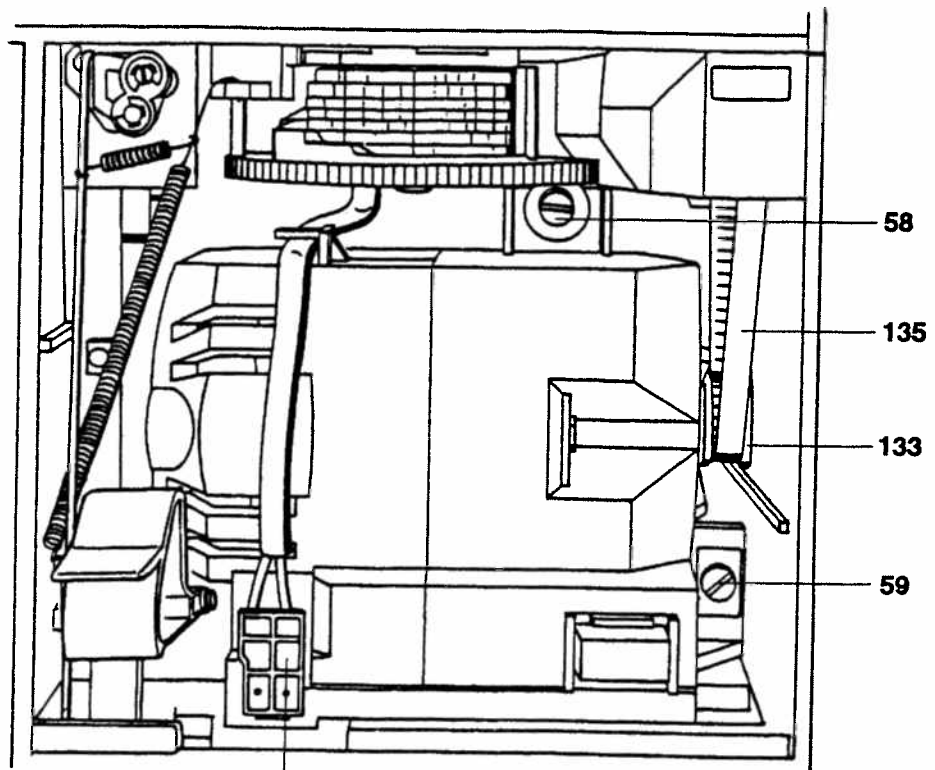

Fig. 41
- Unscrew the right-hand motor retaining screw 59 (fig. 41).
- Insert the motor and place motor sprocket 133 in toothed belt 135 (fig. 41).